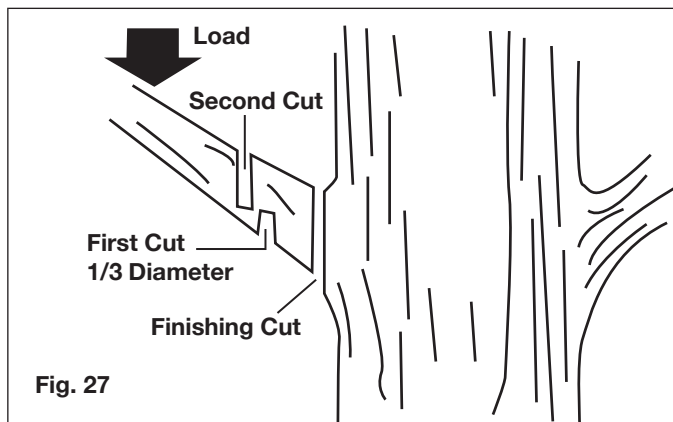

Fig. 27
- Under cut the branch 1/3 through for your first cut. Your second cut should over cut to drop the branch off (Fig. 27). Be prepared to balance the weight of the pole chain saw when the limb falls.
During normal saw operation, the temperature of the chain will increase. The drive links of a correctly tensioned warm chain will hang approximately 0.050 in. (1.25 mm) out of the bar groove (Fig. 27). Be aware that a chain tensioned while warm, may be too tight upon cooling. Check the “cold tension” before next use. The chain must be re-tensioned whenever the flats on the drive links hang out of the bar groove (Fig. 28).